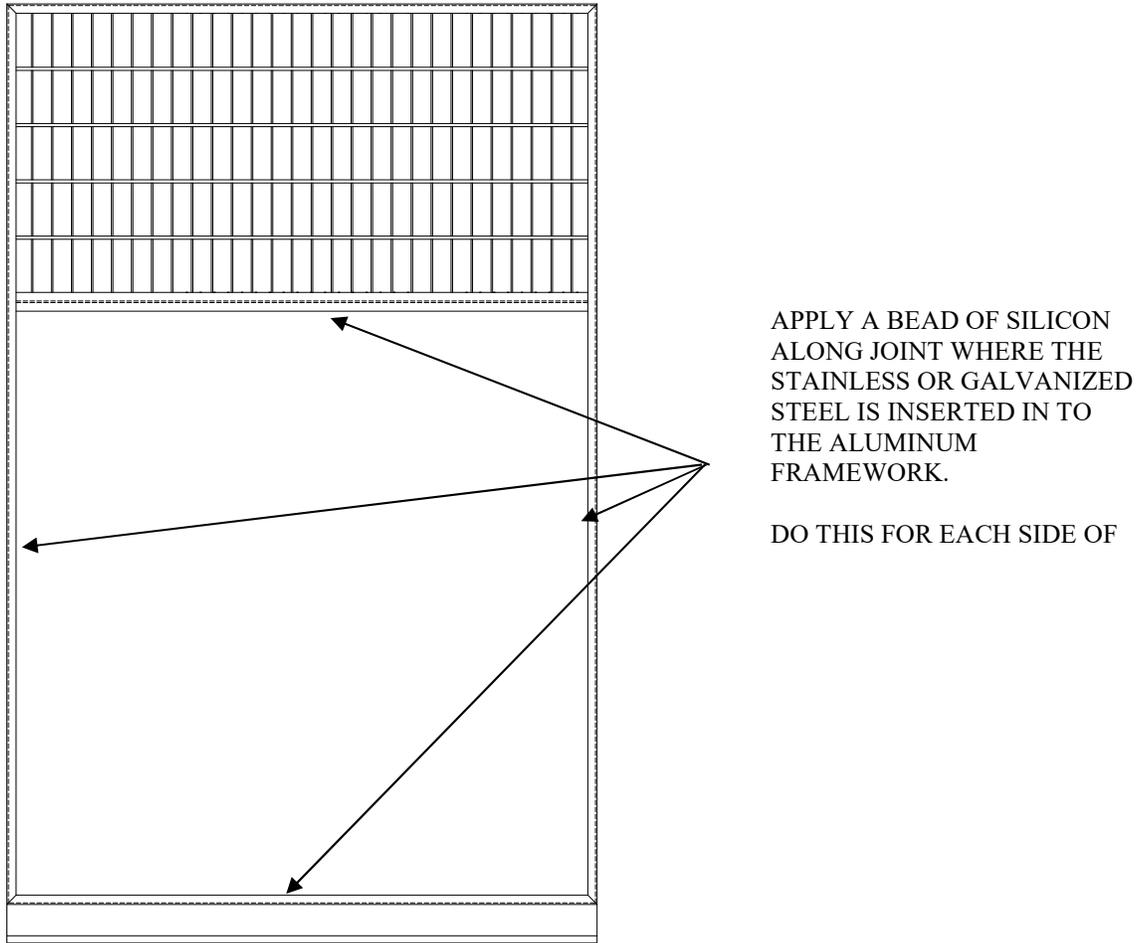

Figure 15
3. **If your system is built with Stainless Steel or Galvanized Steel panels you will need to seal the perimeter of the stainless steel on both sides of the panels. Apply a thin bead and wipe away excess with denatured alcohol applied to a shop rag. Refer to Figure 15.**